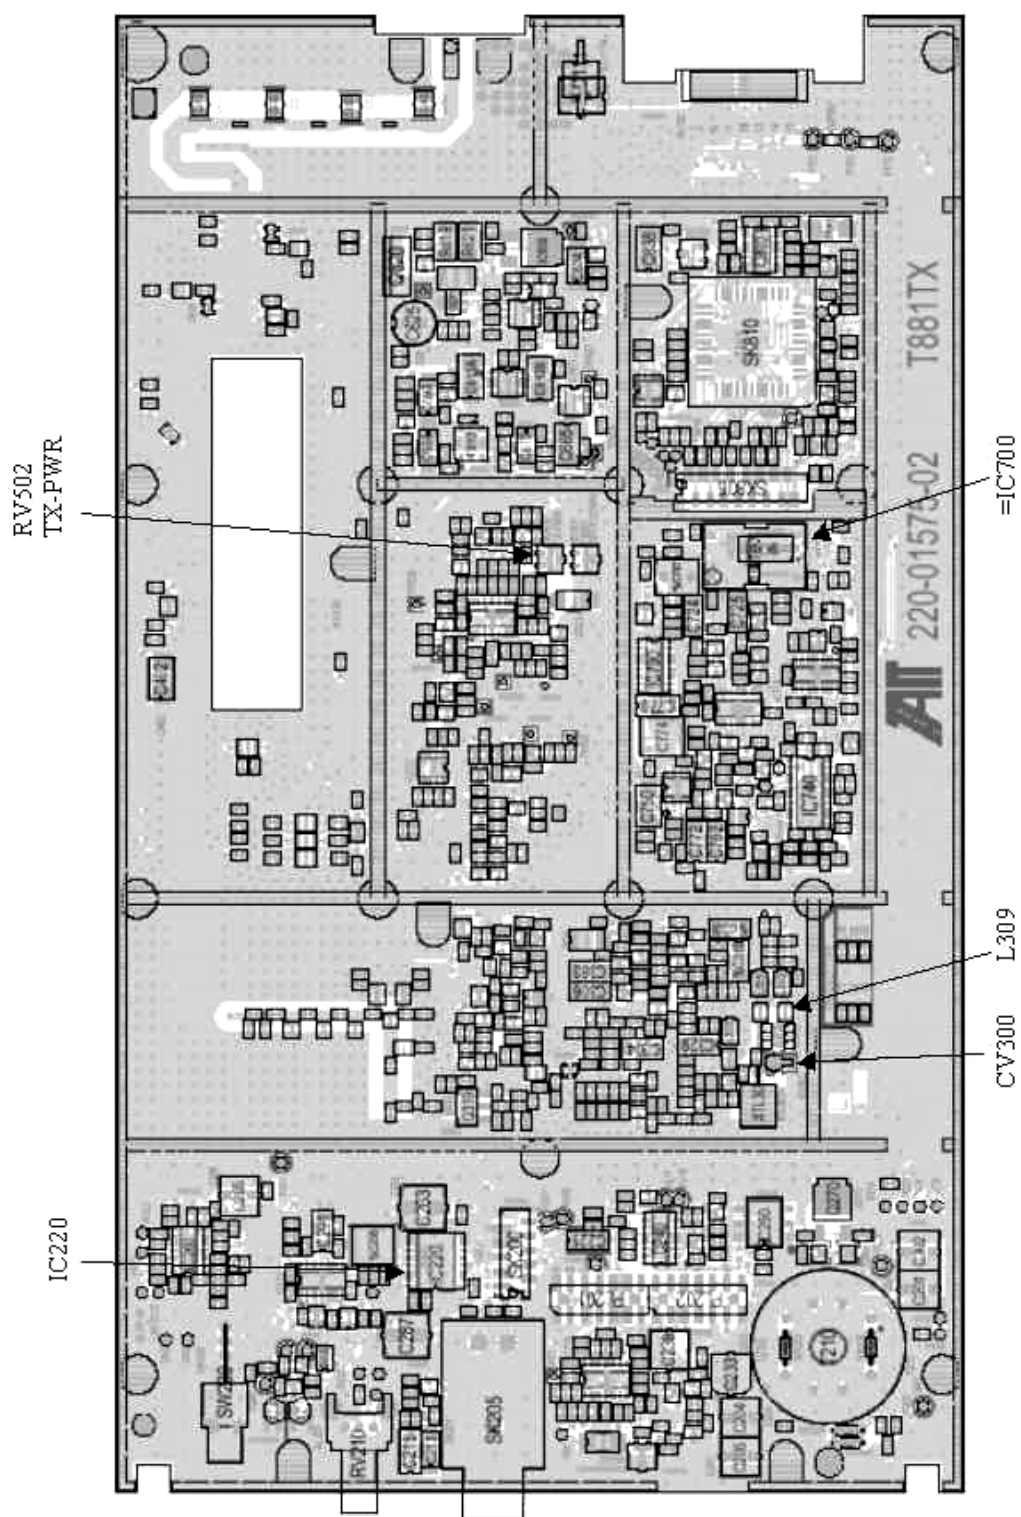

Figure 28 - T881-0200 Exciter Tuning Controls Locations
- 800/900 MHz (T881) = $4\text{W} \pm 300\text{mW}$ (RV502, Figure 28)